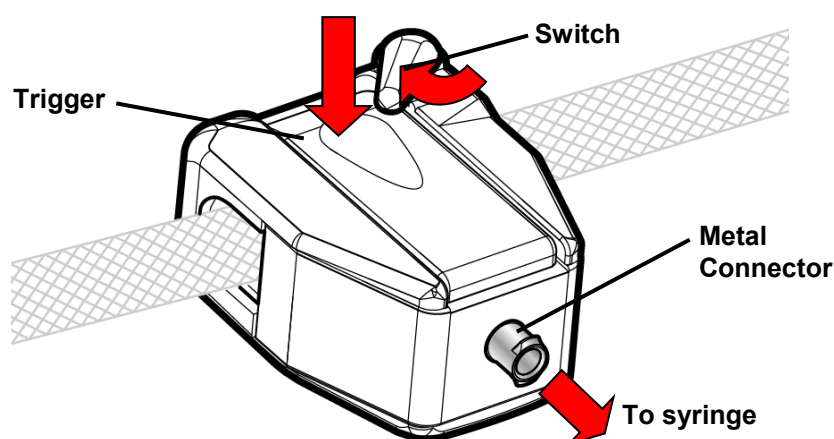

Figure 132 – Dialysate Sampling from the Dialysate Sample Port (Port Open)
3. Press down on the dialysate sampler port trigger and flip the switch to lock the port in the open position (see Figure 132). The dialysate path will now be open through the dialysate sample port to the syringe.